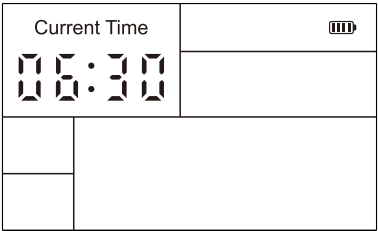

Figure 1
1) In the unlocked state, press the "Set Confirm" to enter the current time setting interface as shown in Figure 1. The hour data will flash (for example, the hour "06" will flash).